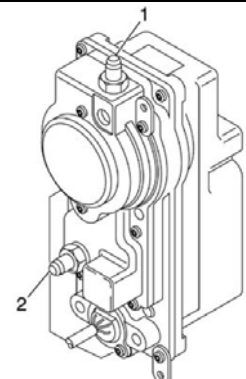

FIGURE 8
11. Disconnect the coolant lines from the actuator (FIGURE 8).